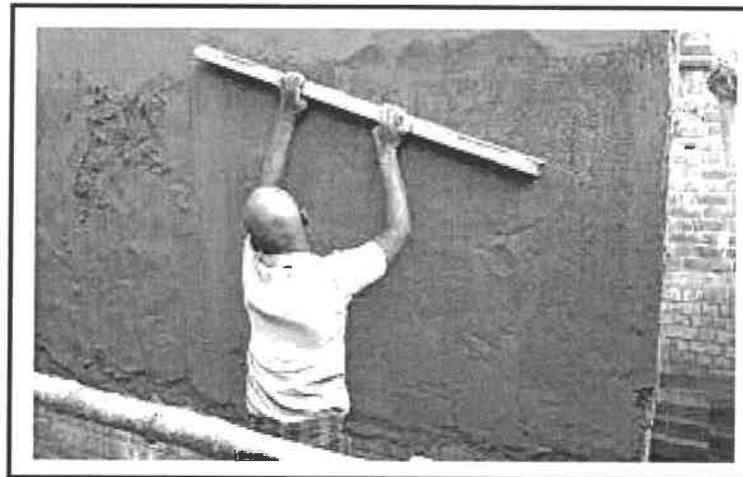

FIGURE 5.1
5.1 FIGURE 5.1 below shows a worker plastering a wall.
- 5.1.1 Name the tool used in FIGURE 5.1. (1)